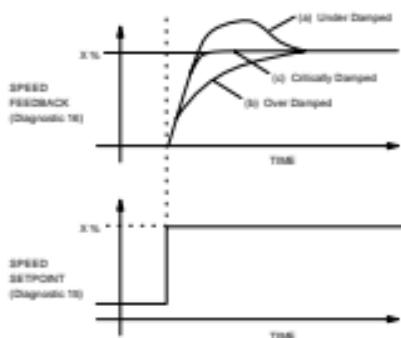

FIGURE 4. TYPICAL SPEED RESPONSE CURVES
- Reconnect the supplies switch on and initiate "Run". Apply a small set change (about 20%) to the Speed Setpoint input and observe the speed response. If necessary adjust the Speed Proportional and Speed Integral presets (P3 and P4) gradually to obtain a Critically Damped performance, i.e., the fastest response possible without overshoot, as shown in Figure 4, Curve (c). In general, clockwise rotation of the presets will improve the rate of response, but advancing the controls too far will tend to introduce overshoot. The optimum setting of P3 and P4 will be a compromise between the two extremes shown in Curves (a) and (b), Figure 4.